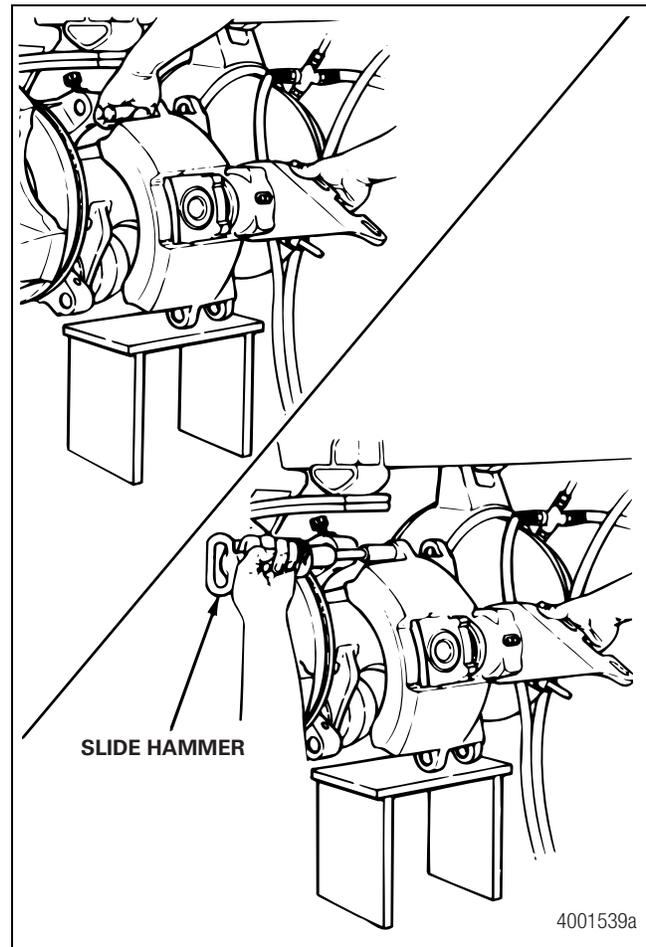

Figure 3.4
11. Pull the bottom of the caliper away from the disc (rotor) and support the caliper. Figure 3.4.
2. Support the caliper while you align the bores in the top of the caliper and the torque plate. Install the top slide pin through the caliper and into the torque plate from the outboard side. Install the pin so that its threaded hole is toward the outboard side. Figure 3.4.